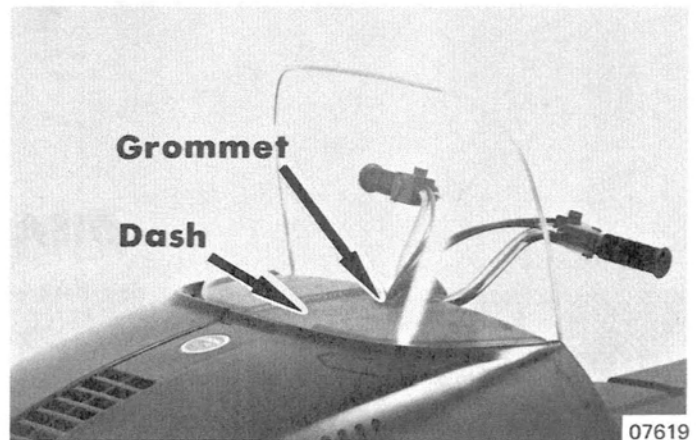

Figure 2. Grommet Location
7. Remove grommet (Figure 2) from hole in dash and pull wires out of dash.